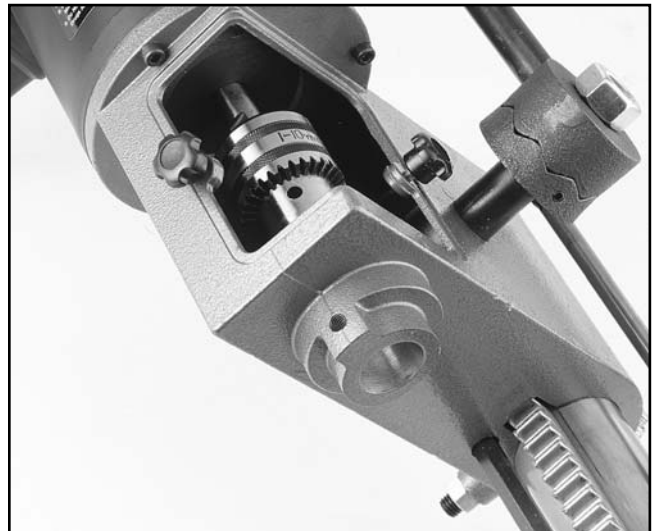

Figure 7.
2. Mortise chisels have either a $\frac{5}{8}$ " or $\frac{3}{4}$ " mounting shank. Determine which chisel you want to use and locate the proper chisel bushing. Remove the brass screw located on the front, bottom of the headstock. **Figure 7.**